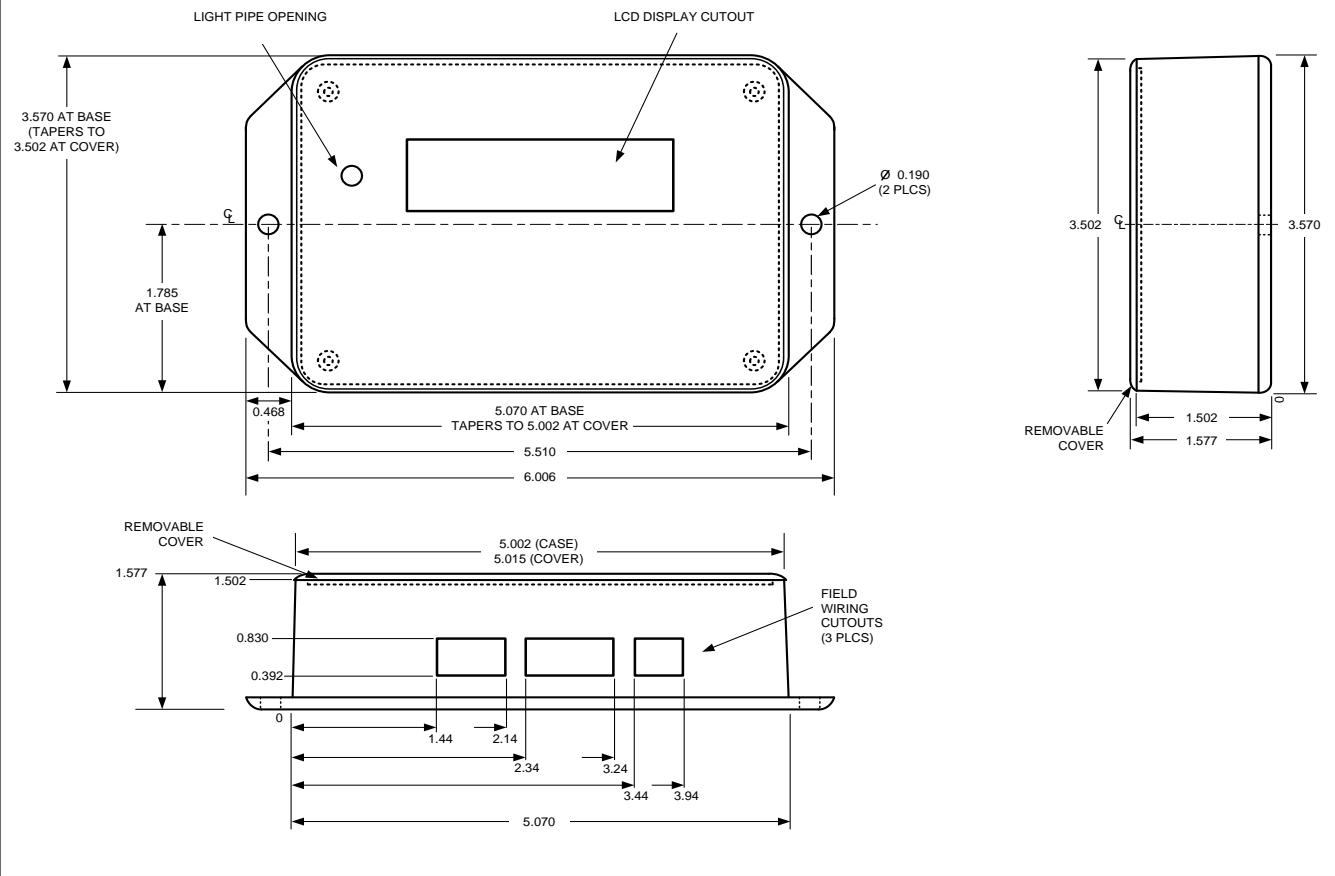

Figure 3. GA-200-N Mechanical Detail Drawing
3. Refer to Figure 3 and mark the two mounting holes located on each of the enclosure side flanges.